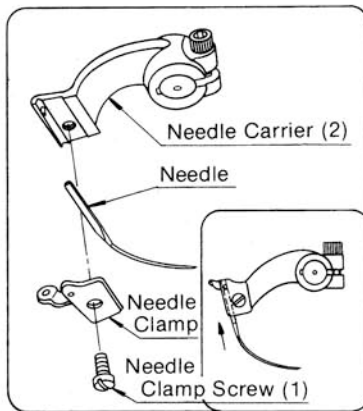

Fig. 8
4. Replacing the Needle (Fig. 8)
Note: Fig. 8 shows needle carrier and its part in a disassembled view.